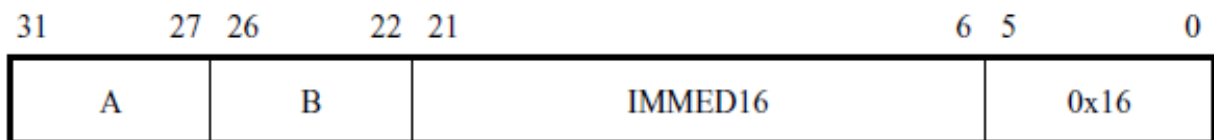

Figure 14: Format for the `blt` instruction.
- Derive the machine code representation of the instruction `blt r7, r8, LOOP`. In the Nios II Processor Reference Handbook, which is available on Altera's website, we can find that the `blt` instruction has the format shown in Figure 14. Use registers r7 and r8 as registers A and B, respectively, and determine the branch offset needed to branch to the instruction at location LOOP.